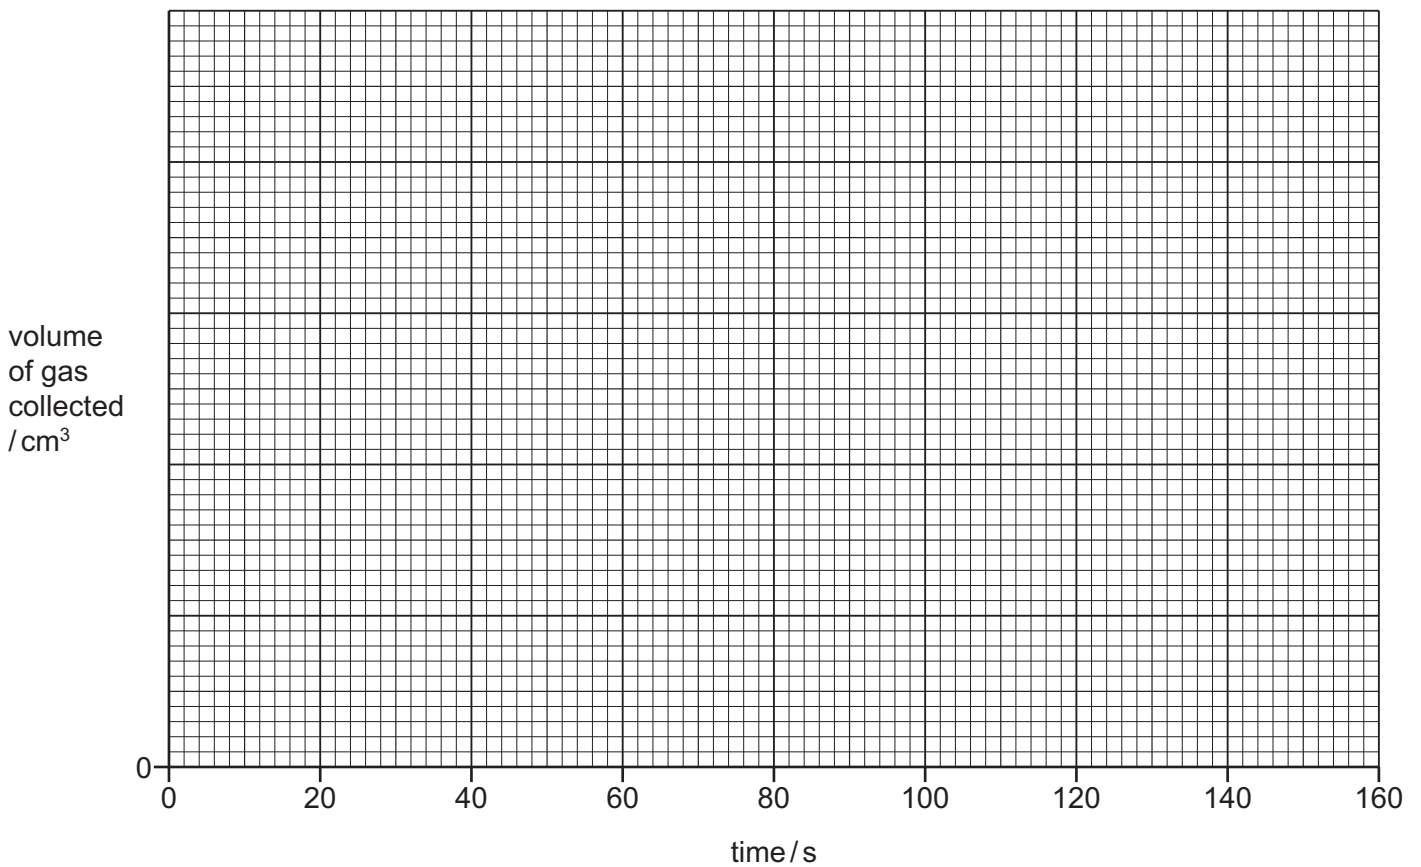

Fig. 1.2
- (b) Complete a suitable scale on the y -axis and plot your results for Experiments 1 and 2 on Fig. 1.2. Draw two lines of best fit. Both lines **must** start at (0,0). Label your lines.
- (c) Deduce the volume of gas collected between 50 seconds and 70 seconds in Experiment 1. Show clearly on Fig. 1.2 how you worked out your answer.
(d) Use Fig. 1.2 to explain which experiment had the faster rate of reaction.
(h) Sketch on Fig. 1.2 the graph you would expect when Experiment 2 is repeated using ethanoic acid with a higher concentration.